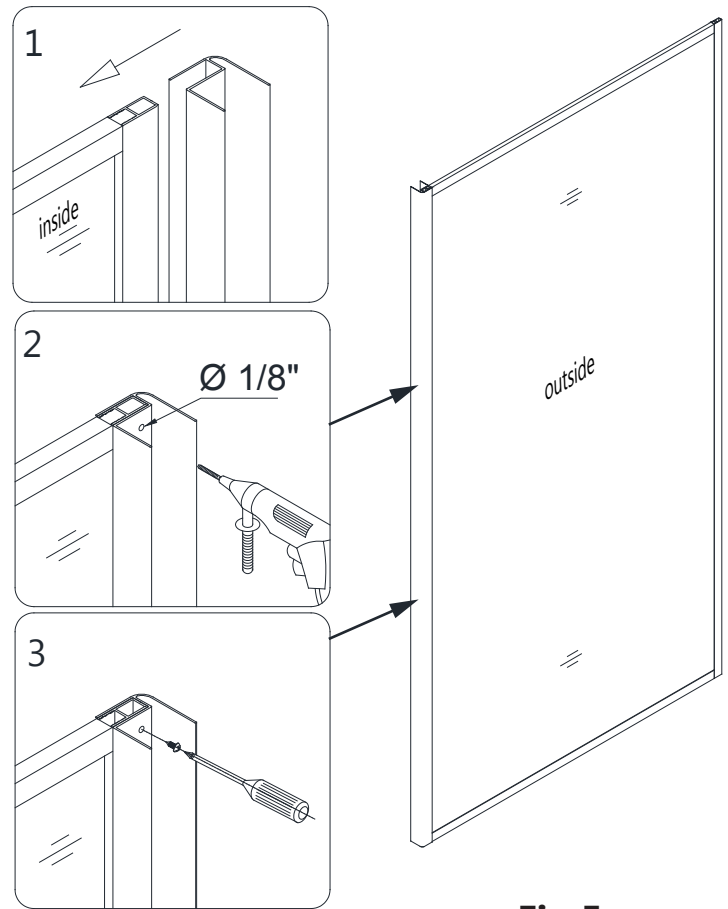

**Fig 4**
**USE THE INSTALLATION MANUAL PACKAGED WITH THE FLEX DOOR TO ASSEMBLE AND INSTALL THE DOOR SECTION. (Fig 4)**
**4.** Move the Door assembly onto the threshold and slide the Stationary glass profile into the **Wall profile (#01)**. (Fig 4)